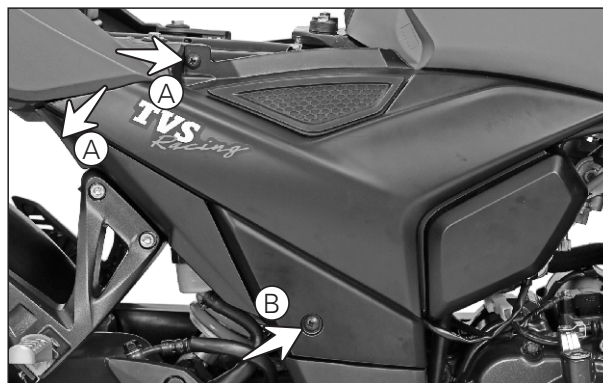

Fig. 2.4
- Remove the CRR pan head screw (A) (M6x16 - 2 nos.) and CRR pan head screw (B) (M6x20 - 1 no.) from the cover frame R. (Fig. 2.4)